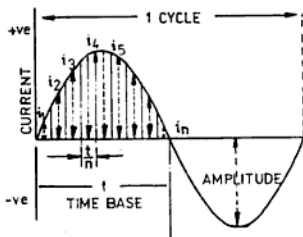

Fig. 11.2: Average value over half cycle
**Peak Value or Amplitude** The maximum value of an alternating current or voltage during a cycle is known as its amplitude (Fig. 11.2).
In the case of ac, there are two half-cycles which are exactly opposite to each other. Therefore, the average value over a complete cycle is zero. The average value over a half-cycle is obtained as in Fig. 11.2.